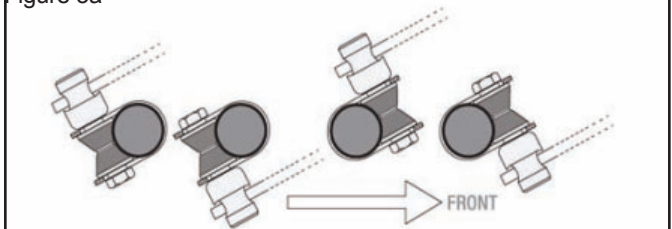

Figure 3b
3. Hold shield to motorcycle and select the best location around a vertical section of the handlebar to mount the U-Clamps. **Figure 3b and 3c**